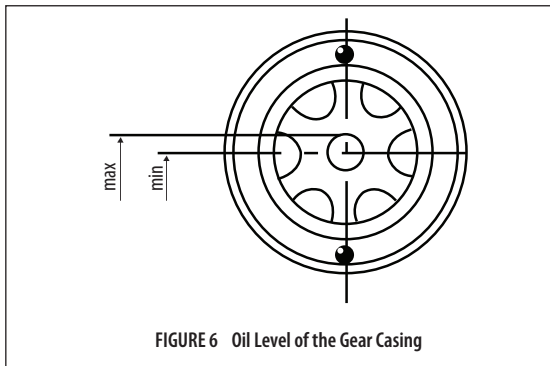

FIGURE 6 Oil Level of the Gear Casing
3. Check that oil is at the proper level in the gear housing. Excessive oil will cause the gear box to overheat (see Figure 6).